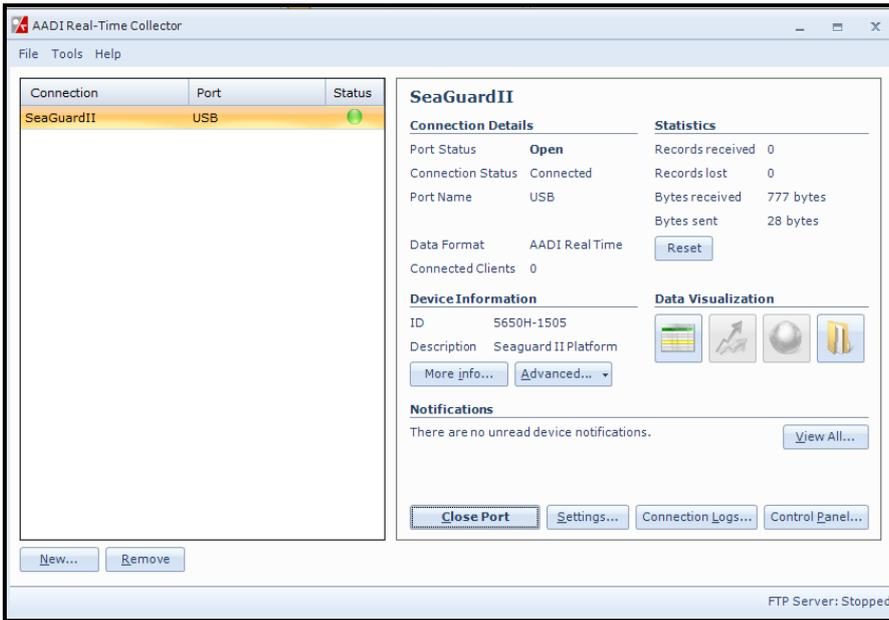

Figure 3-4 AADI Real-Time Collector main menu
- Press **Open Port** and the connection to the SeaGuardII should be established within a few seconds and the status turn to green (refer **Figure 3-4**).
Open **Control Panel** (refer **figure 3-4**)